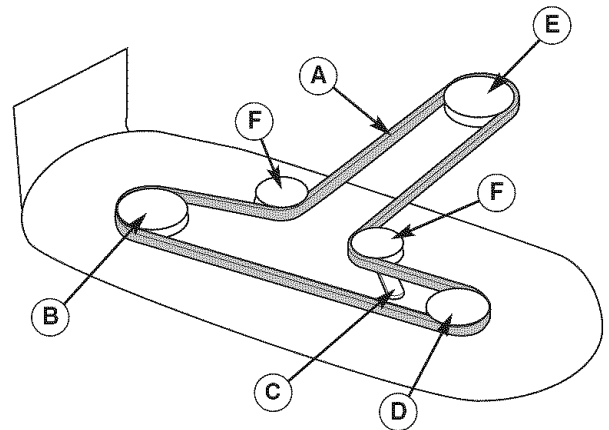

**Figure 37. Front-to-Back Leveling**
2. To raise or lower the front of mower deck, loosen lock nut (A, Figure 37 inset) and turn eccentric nut (B).
3. Recheck measurement before tightening lock nut (A) against bracket.